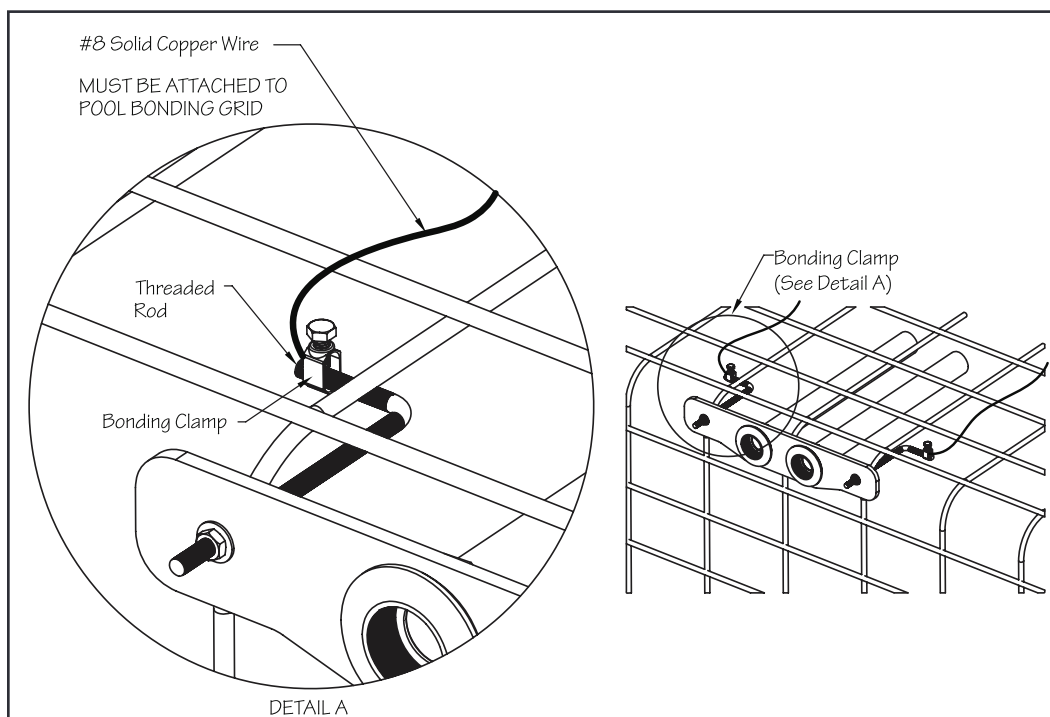

Fig. 4.4
**The threaded rods MUST be tied into the pools bonding grid.** Secure a bonding clamp to each threaded rod. Attach a #8 solid copper wire to each bonding clamp. These wires **MUST** be attached to a bonding connection that's incorporated into the pool's bonding grid. In most cases this will be a connection at the rebar. Verify ALL bonding connections are tight before shooting gunite (Fig. 4.4).